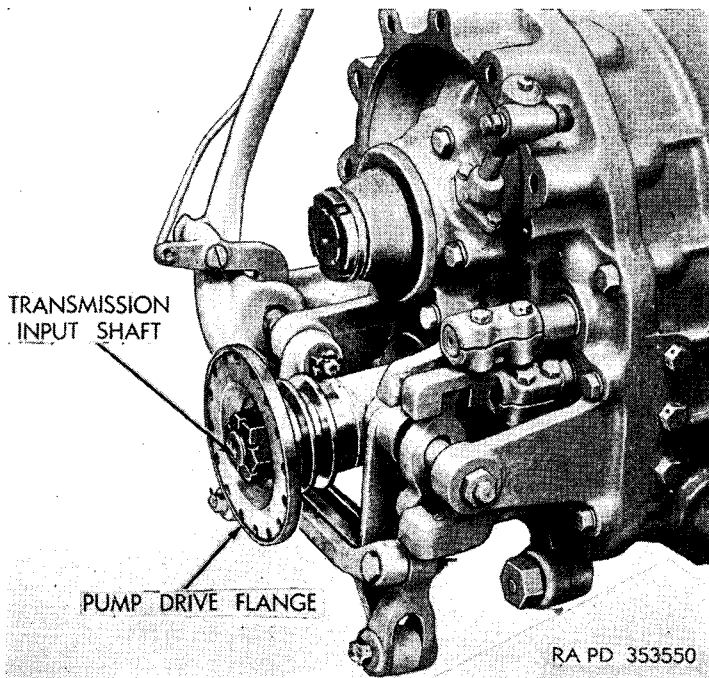

Figure 19. Pump drive flange—installed.
g. INSTALL HYDRAULIC PUMP DRIVE FLANGE (fig. 19). Install pump drive flange from bulldozer kit on end of transmission shaft and secure with nut and cotter pin.